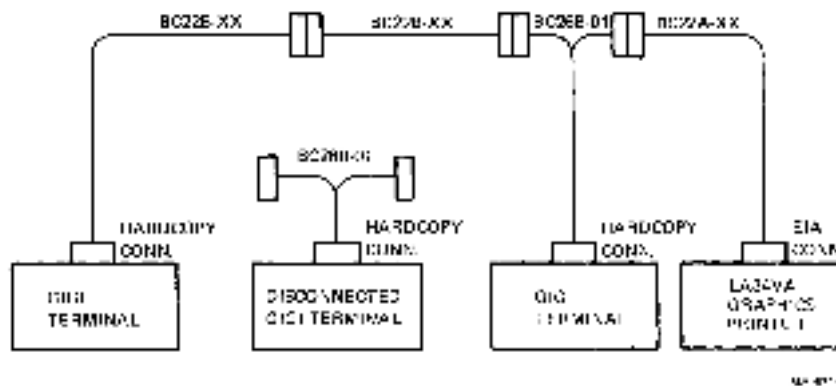

Figure 2-12 Removing a Terminal from a Multiterminal String
2.5.3.3 Removing a Terminal from a Multiterminal String -- Use the following procedure if two or more VK100 terminals are connected to the LA34VA graphics printer. Figure 2-12 shows a simple diagram of the procedure.